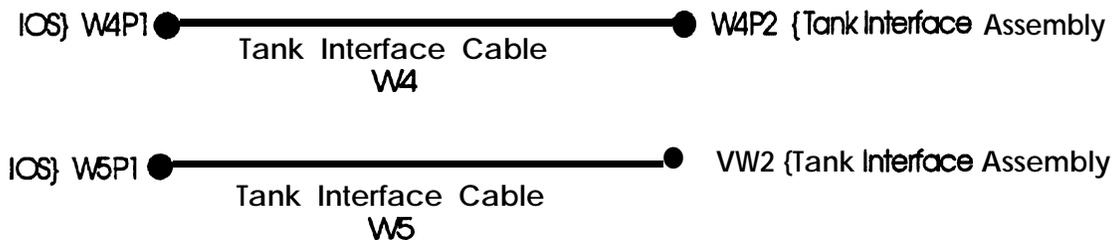

Figure 2-74. Tank Interface Cable Wire Diagrams
- (1) Place the DOMELIGHT POWER switch in the OFF position (down). The DOMELIGHT POWER light dims.
- (2) Turn the INSTRUCTOR/OPERATOR passkey to the OFF position.
- (3) Place the MAIN POWER SWITCH in the OFF position (down). The SYSTEM POWER and 24V, +12V, -12V, and 5V POWER SUPPLY STATUS lights dim. The IOS is now shutdown.
- b. Use Figure 2-74 as a guide to make the following Tank Interface cable connections:
- (1) Connect Tank Interface cable W4 (digital cable). Locate connector W4P1 on cable W4 and connect it to receptacle A11J12/W4P1 on the IOS Connector Panel of TD 17/162A. For TD 17/162B, connect W4P1 to rear of Unit 1A4 receptacle A4A5J12/W4P1.
- (2) Connect Tank Interface cable W5 (analog cable). Locate connector W5P1 on cable W5 and connect it to receptacle A1 1J13/W5P1 on the IOS Interface Connector Panel of TD 17/162A. For TD 17/162B connect W5P1 to rear of Unit 1A4 receptacle A4A5J13/W5P1.